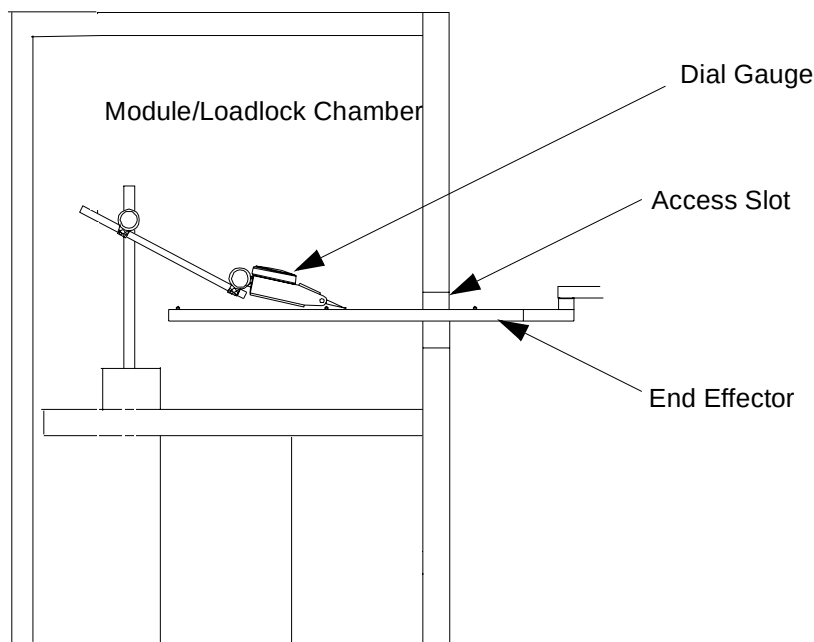

Figure 7-1: Locating the Dial Indicator
- Dial indicator and base as shown in **Figure 7-1**
- Dial indicator and base as shown in Figure 7-1 (refer to Appendix B: Tooling on page 11-3)
1. Set an indicator base on the inside bottom of the module chamber being used, i.e. Vacuum Cassette Elevator, Process Module, as shown in **Figure 7-1**.